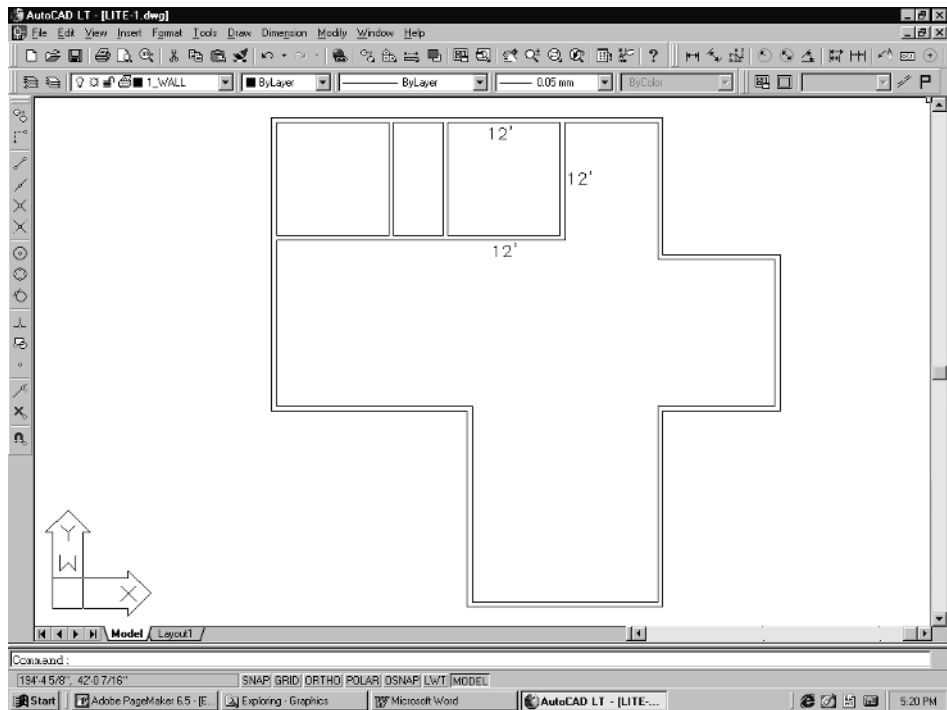

Figure 6-17
14. Finish the other walls using the same steps. The lengths of these walls are shown in Figure 6-17. You can add more interior walls whenever you wish. Use the Fillet or Trim commands if there are any lines to clean up.
Now that you have a simple footprint similar to Figure 6-17, you can begin adding the windows. You will first be prompted for the length of the window. This prompt for the window length is rather cryptic, since AutoCAD LT has no means of passing text strings to users. The prompt actually ask for the value of "USERI5." This is a variable we use to pass on to the program whatever number you type in for the window length.